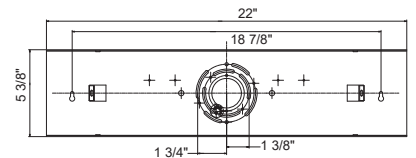

Fig. 4
7. The lamp can switch between four color temperatures (3000k-3500k-4000k-5000K), which can be adjusted to your preference with the switch in the fixture (Fig. 4). Note: (i) The switch comes with a detachable cover, remove the cover prior to adjusting the color temperature, fasten the cover after adjustment is made.
### NOTE: DIMMING WIRING INFORMATION (Fig. 4)